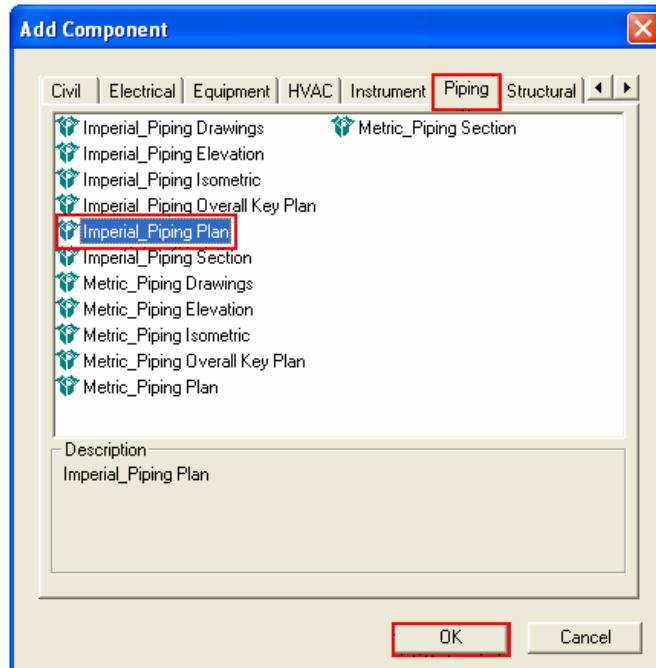

Figure 11: Piping Tab in the Add Component Dialog Box
2. In the Add Component dialog box, click the **Piping** tab to view the components under it. Select **Imperial_Piping Plan**, and click **OK**, as shown in Figure 11.